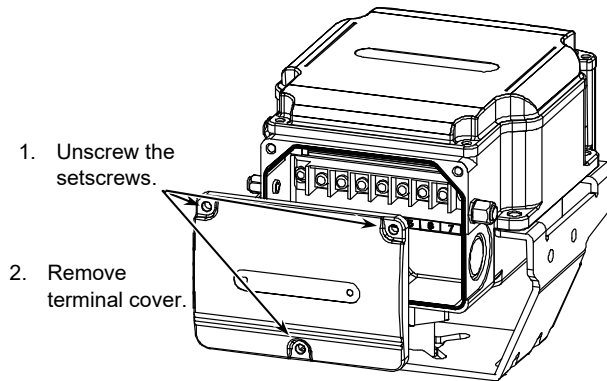

Figure 13. Terminal cover removal
- 2) Unscrew the 3 setscrews (M4 × 10) of the terminal cover and remove the terminal cover, as shown in Fig. 13.